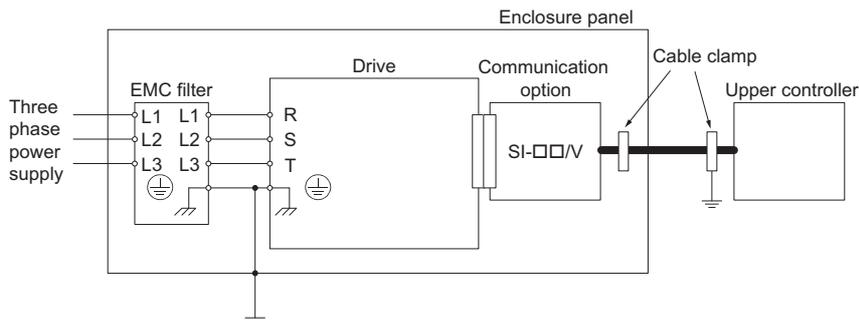

Figure 26 EMC Filter and Option Installation for CE Compliance
2. Keep wiring as short as possible. Ground the shield according to Figure 26.